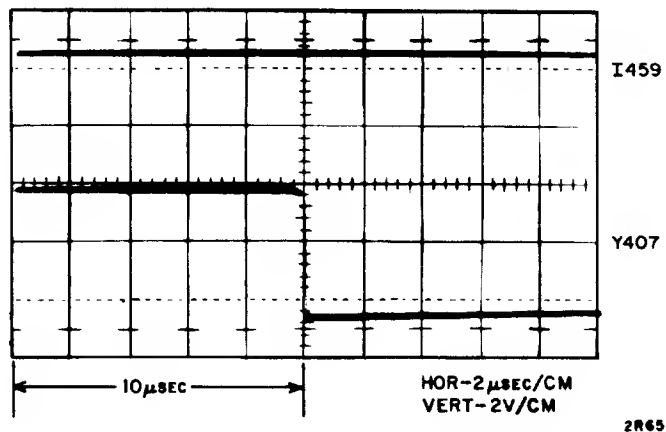

Figure 6-23. Head Select Timing
- c. Make oscilloscope settings and trace comparisons according to Figure 6-23. As the one-track repeat seek cycles, adjust the potentiometer shaft of Y407 until its output pulse is delayed by  $10\ \mu\text{sec}$  with respect to the "0" output of I459.